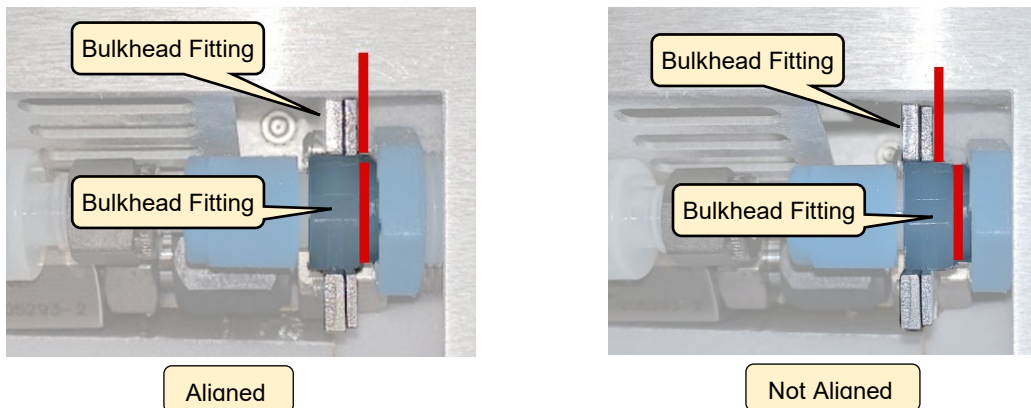

Figure 41: Aligning the Filter Assembly
1. Place an absorbent cloth or paper in the area that will be occupied by the filter and fittings. See Figure 41. This will be used to absorb fluid during the leak test performed after installation of the new filter.
1. With the instrument still turned off, and absorbent cloth or paper under all relevant fittings, connect a tank of dry gas to the analyzer inlet and set the pressure to 2-3 PSIG (Figure 41).